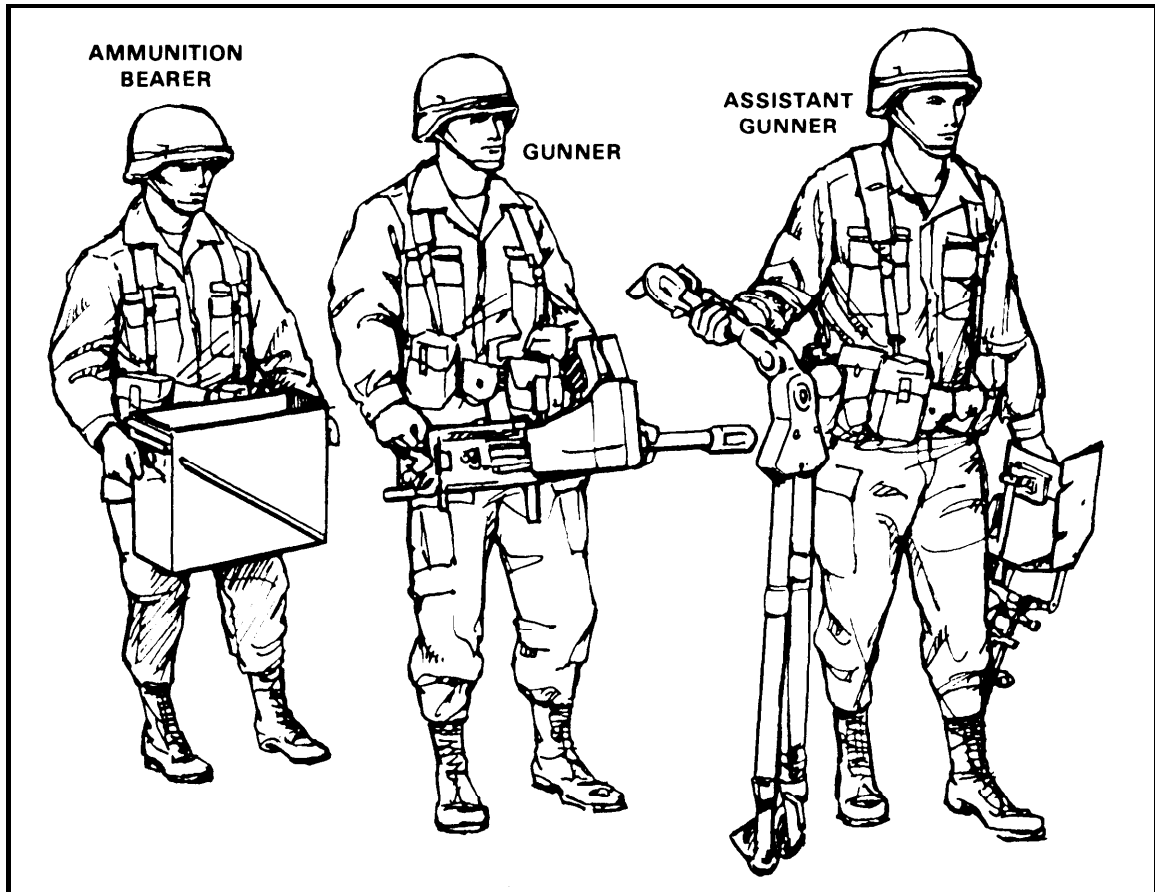

Figure 4-1. Three-man MK 19 crew.
c. Standard. Upon hearing the leader's command, the crew forms in a column, five paces apart, in the following order: assistant gunner, gunner, and ammunition bearer (Figure 4-1).